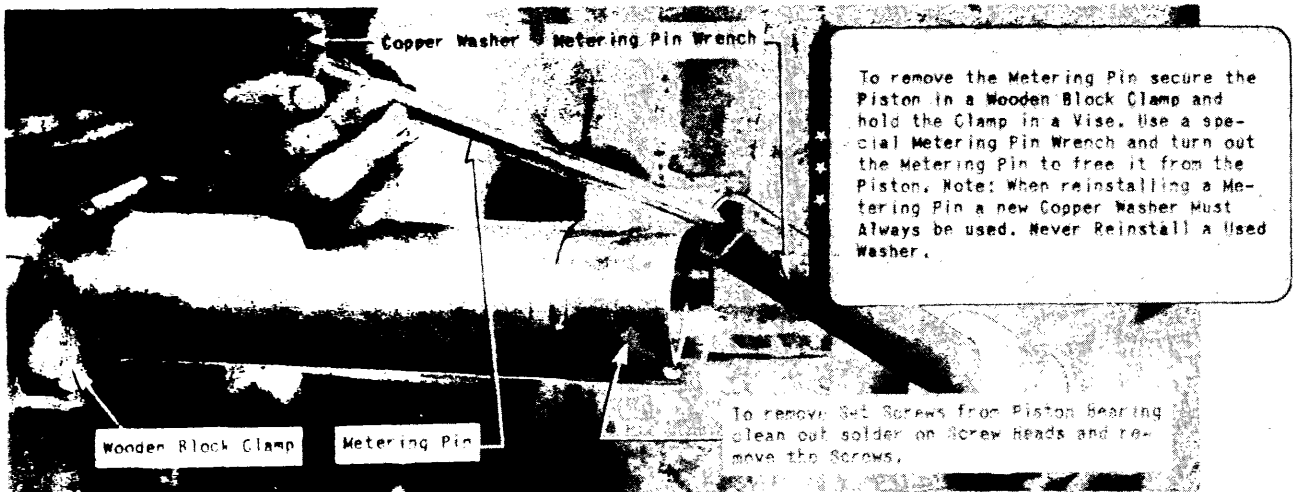
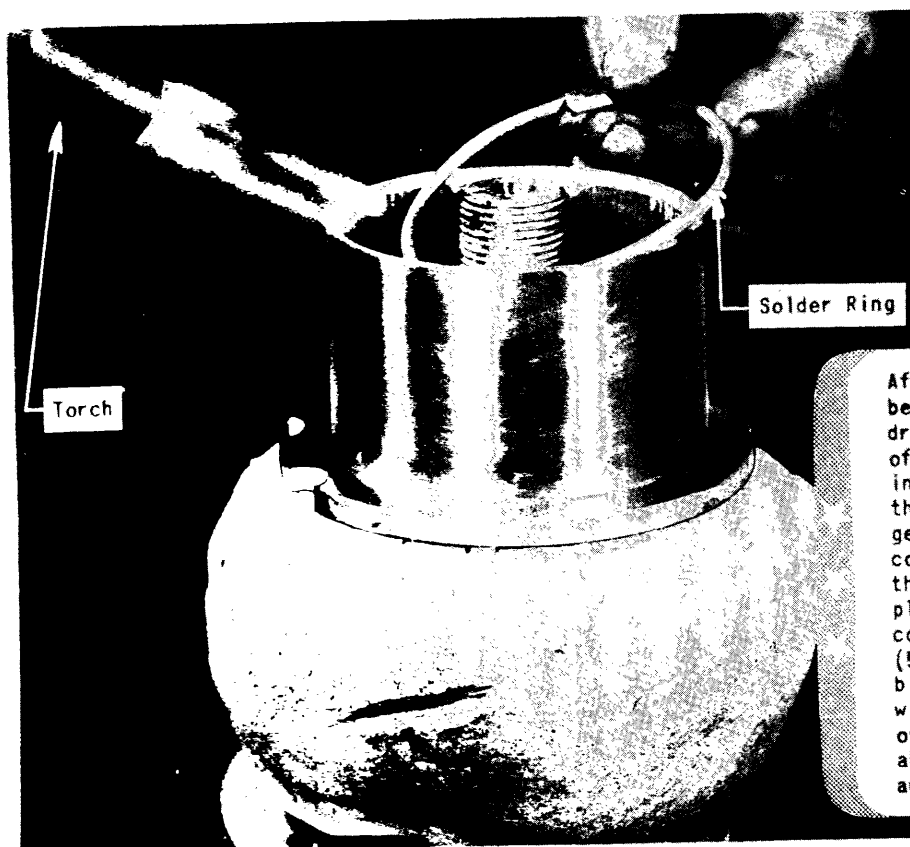

Figure 163 - Removing Metering Pin from Piston
Figure 168 - Completing Solder Joint
(12) If it is desired to remove the metering pin, place the piston assembly in a wooden block clamp and lock the clamp in a vise. Insert the metering-pin wrench (87-88-031) into the piston at the bearing end and unscrew the metering pin. Remove the metering pin and wrench and pull the metering pin from the wrench. (See figure 163.)
(13) While the piston is in the wooden clamp and secured in a vise remove the solder from the three
lock screws on the piston bearing either by digging the solder out or applying just enough heat to melt it away. (See figure 163.)
(15) If it is desired to remove the plunger from the oleo strut, place the oleo strut in a vertical position in a vise. (See figure 168.) Mix some asbestos sheets with water until a thick mixture is obtained and mold a generous ring of asbestos around the oleo. (See figure 168.) This will prevent the heat from the torch, when applied to melt the solder joint, from going down in the oleo cylinder.
(16) Apply heat from a torch and melt the solder.
(17) Free the oleo cylinder from the vise and turn the cylinder upside down so that the melted solder will run out into a container. Now the plunger can be turned out of the cylinder with a spanner wrench without the
(12) After the plunger is properly assembled in the cylinder, drop about three more rings of solder into the cylinder while applying heat. Drop these rings in one at a time as illustrated in figure 168. This should thoroughly seal the joint and build up a solid solder cap around the plunger face.
(13) Clean the outside of the top of the cylinder where the heat was applied with a solution of 5 percent soda ash, 1 percent potassium bichromate, and 94 percent water. Polish with a cloth and set the cylinder aside to cool.
(14) When the cylinder has cooled sufficiently remove the asbestos mold and the cylinder is now ready for the assembly of the remainder of the units.
(15) First assemble the piston by placing it in a wooden block clamp and inserting the clamp in a vise to secure it from turning. (See figure 163.)
(16) Insert the metering pin in the metering-pin wrench; be sure to install a new copper washer on the threaded end below the nut and insert the wrench with the pin into the piston. Screw the metering pin in tight.
(17) Slide the gland nut on the piston, threaded end first, then slide on the lower packing ring, the five packings, and the upper packing ring.
(18) Slide the sleeve over the piston and screw on the piston bearing until it is tight.
(19) Install the three lock screws and fill the screwheads with solder to safety them in place. Buff off the solder so that there are no burrs or sharp edges to score the cylinder wall.
(20) The piston is now completely assembled and ready for installation in the cylinder. Wet the packings thoroughly with hydraulic oil, Specification No. 3586, so that they will slide into the cylinder easily.